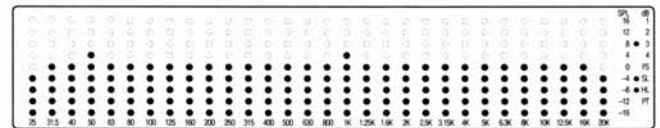

Figure 19. Frequency Response Curve of a typical Amplifier.
6. Figure 19 shows the frequency response curve of a typical amplifier.